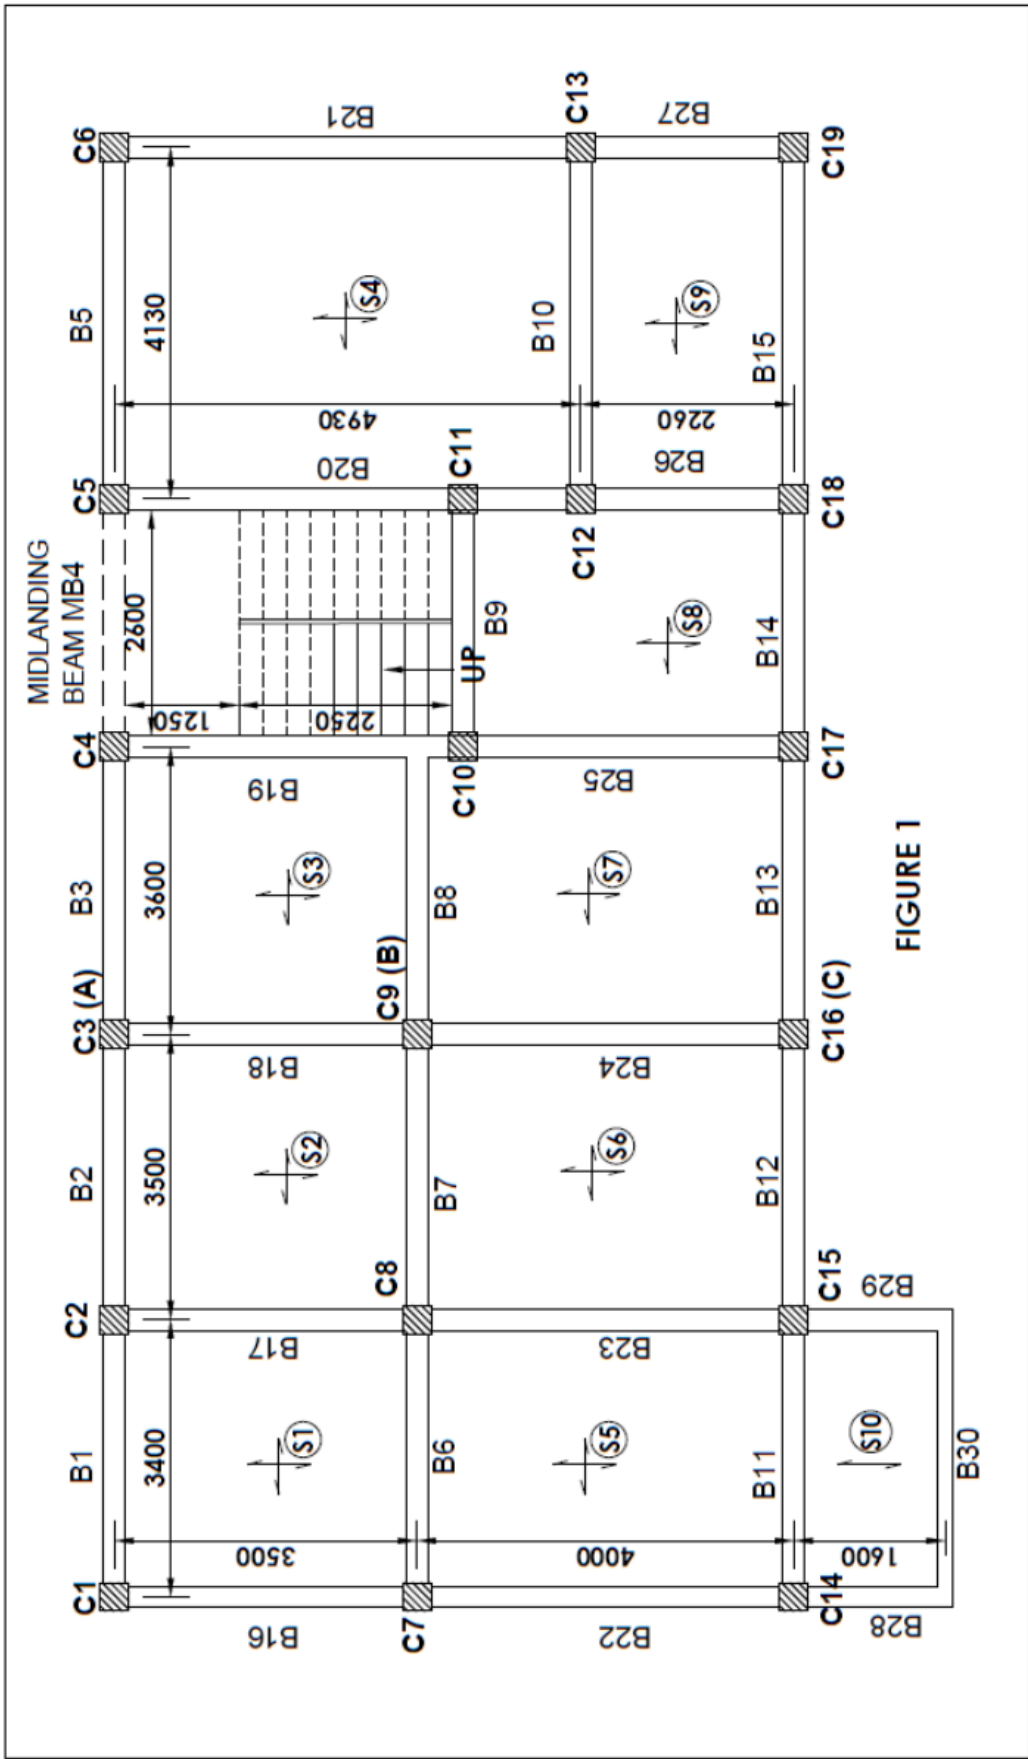

FIGURE 1
- 2 a) Design a simply supported slab **S10** as shown in **Figure 1**. The slab is supported by beams of width 230mm along three edges and 150 mm along one edge. The slab is subjected to floor finish of 1.5 kN/m² and live load 5 kN/m². Use Concrete of grade M25 and Fe 500 reinforcement with mild exposure condition. Draw details of reinforcement. Design the slab for flexure only. (6) CO3
- 3 a) Design the intermediate flight of a staircase as shown in **Figure 1** for the following data: (16) CO4
- 3 b) Design a simply supported reinforced concrete floor beam **B10** as shown in **Figure 1** for flexure and shear with following data: (16) CO4
- 4 b) Design a continuous floor beam B18-B24 (A-B-C) as shown in **Figure 1** using moment redistribution method. Thickness of the all floor slab is 120 mm , live load and floor finish load on all slabs are 3.0 kN/m^2 and 1.5 kN/m^2 , respectively. The wall on this beam is 150 mm thick and 2.7 m high. Calculate design moment for **span AB and support B** after 18% redistribution of moments. Design span AB and support B for **flexure only**. Draw the reinforcement details. (16) CO5